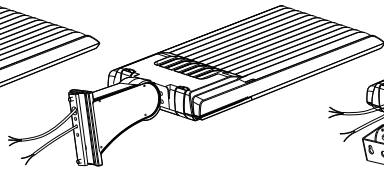
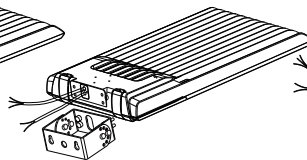

Figure 6
Figure 7
Step 2: Install the bracket on the fixture, then cover the side lid and tighten it. (Figure 6)
4. YOKE MOUNTING (YM)
Step 1: Remove the bracket mounting screws on the fixture and run the wires through the bracket. (Figure 7)